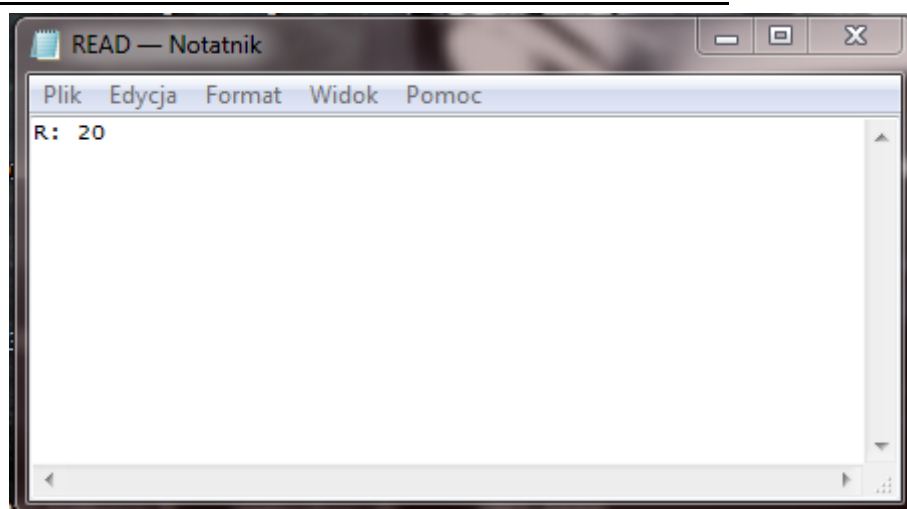

Fig 3. An example of a correctly saved reading configuration file
2) Reading of recorded data with using a configuration file (see Fig 3.)